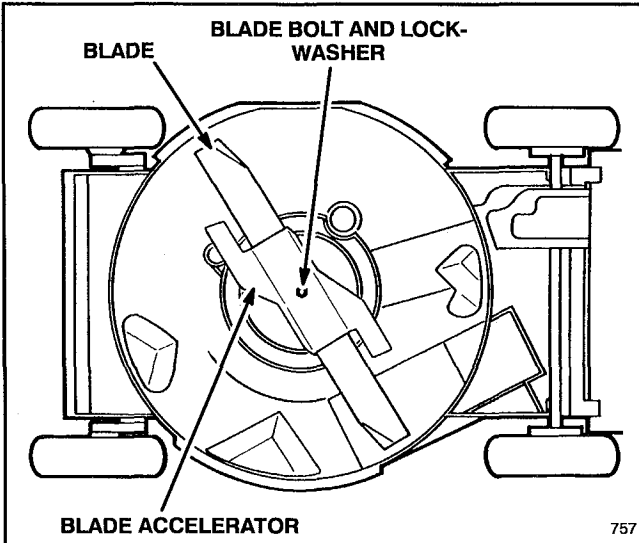

Figure 26
3. Tip mower on its right side (Fig. 26). Avoid rotating blade. Starting problems may result.
5. **REMOVING BLADE**—Grasp end of blade using a rag or thickly padded glove. Remove blade bolt, lockwasher, blade accelerator and blade (Fig. 26).